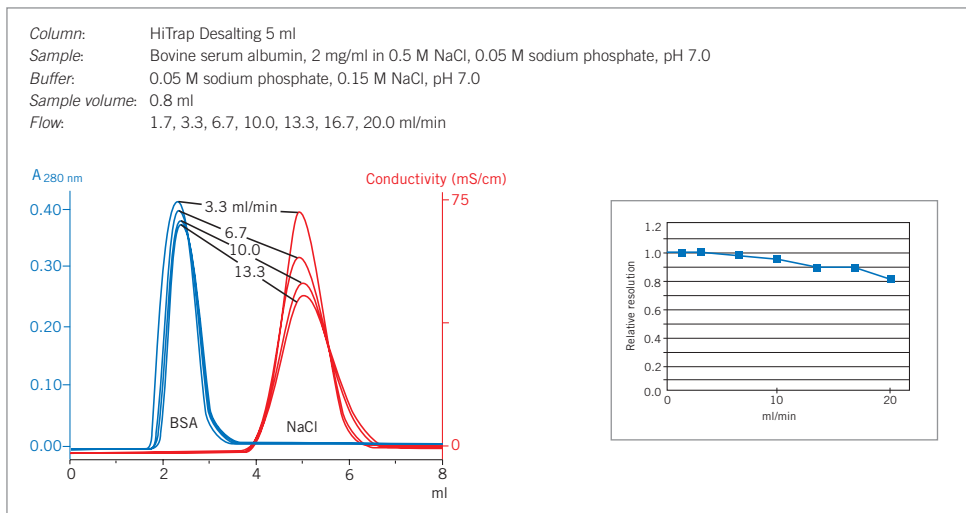

Fig. 48. Influence of flow rate on separation using a HiTrap Desalting column.
3. Select the highest flow rate recommended. Figure 48 shows an example of the influence of flow rate on group separation.